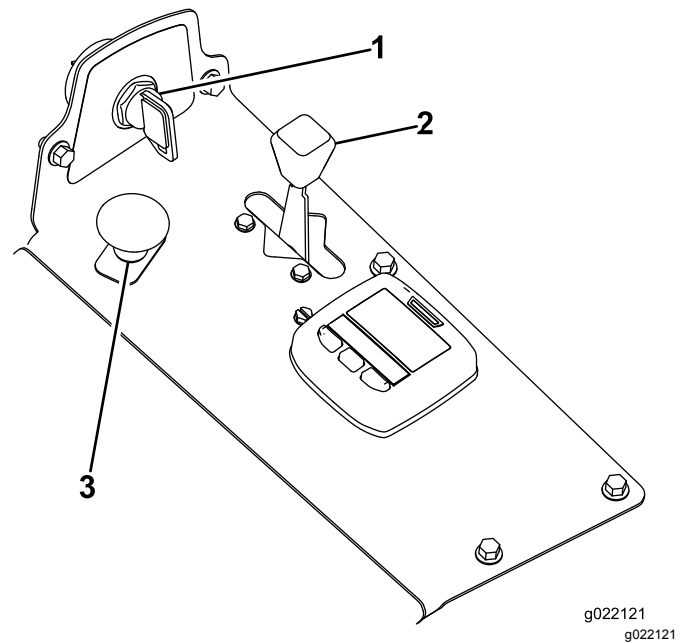

Figure 16
4. Move the PTO (power take-off) switch to the OFF position (Figure 16).